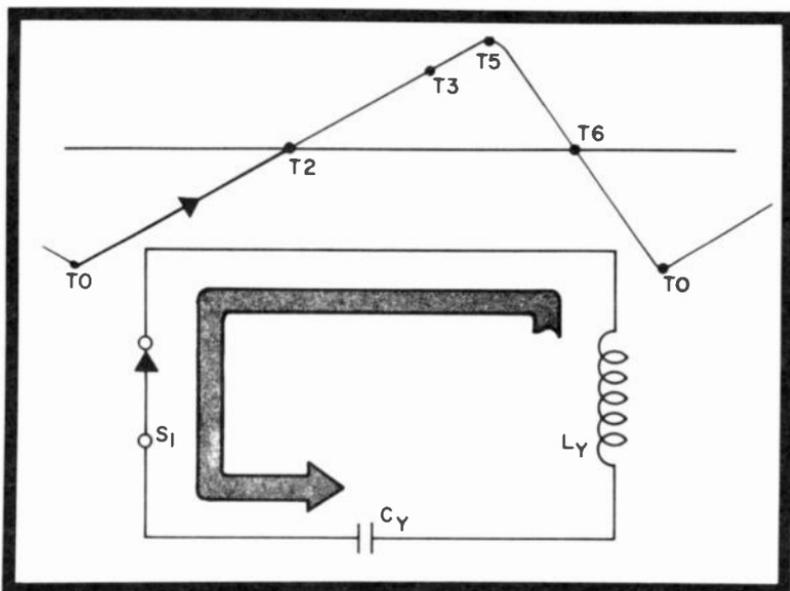
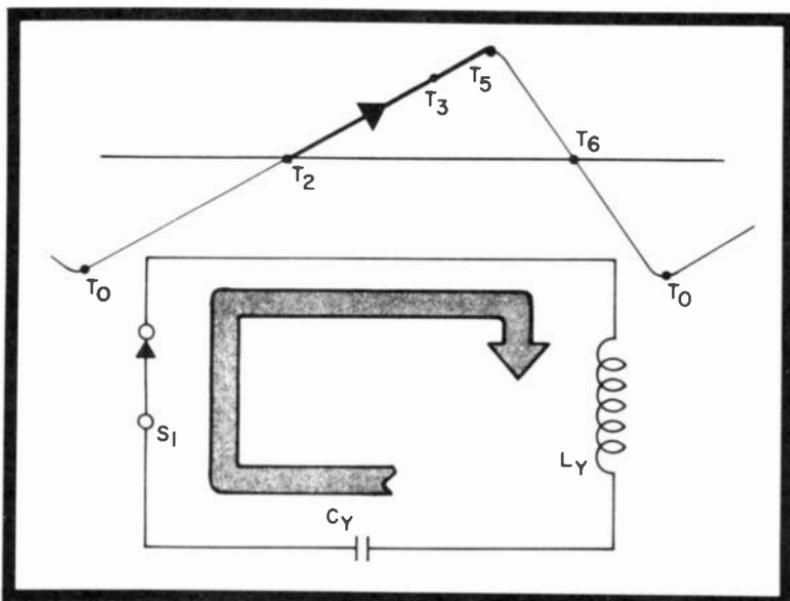

Fig. 9-16. Circuit current  $T_0$  to  $T_2$ ; the first half trace yoke field collapses into  $C_Y$ .
Fig. 9-17. Circuit current  $T_2$  to  $T_5$ ; during the second half of the trace,  $C_Y$  discharges into the yoke windings.
**Trace time:** Referring to Fig. 9-16, during the first half of trace time ( $T_0$  to  $T_2$ ), switch S1 is closed, allowing a field previously produced about the yoke inductance,  $L_Y$ , to collapse, resulting in a current which charges capacitor  $C_Y$ . This yoke current causes the picture tube beam to deflect to approximately the middle of the screen. During the second half of the trace time interval  $T_2$  to  $T_5$ , the current in the yoke circuit reverses because the capacitor  $C_Y$  now discharges back into the yoke inductance,  $L_Y$  (Fig. 9-17). This current causes the picture tube beam to complete its trace.